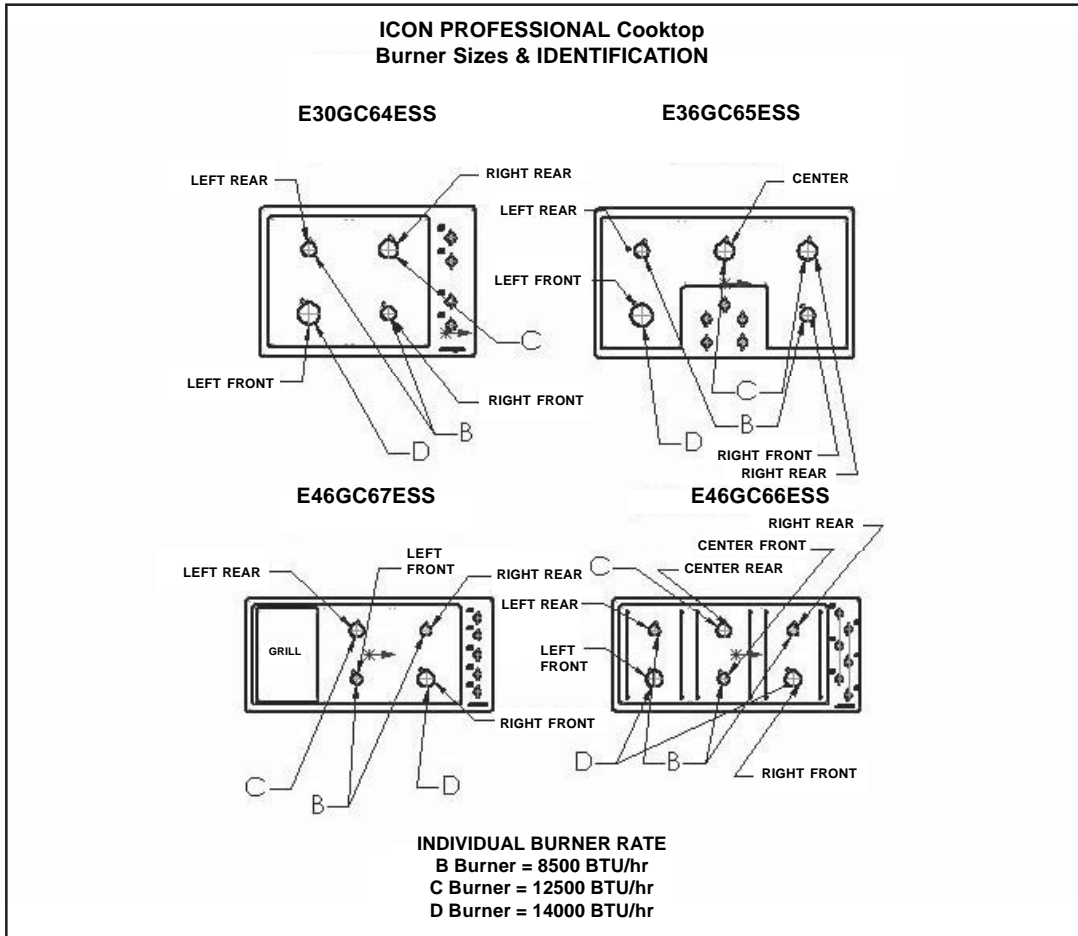

Figure 1
**STEP 2:** FIND THE LP KIT INCLUDED WITH THESE INSTRUCTIONS. Use the correct table for the model number identified in Step 1 and Figure 1 "Burner Sizes and Identification" to locate the position for each orifice included with the kit. Each orifice nut spud is stamped with its size.
**STEP 4:** REPLACE THE MAIN ORIFICES AT EACH BURNER LOCATION WITH THE ORIFICE NUMBER LISTED IN THE TABLES ON PAGE 2. Refer to Figure 1 “Burner Sizes and Identification” to assure the orifice is replaced at the correct location.
Refer to Figure 1 “Burner Sizes and Identification” to assure the orifice is replaced at the correct location. Save the orifices removed from the appliance for future use.
**STEP 5:** SET AIR SHUTTER GAP AFTER REPLACING THE MAIN ORIFICES AT EACH BURNER LOCATION. Refer to the Figure 1 “Burner Sizes and Identification” to assure the SHUTTER is adjusted to the correct gap at the correct location.